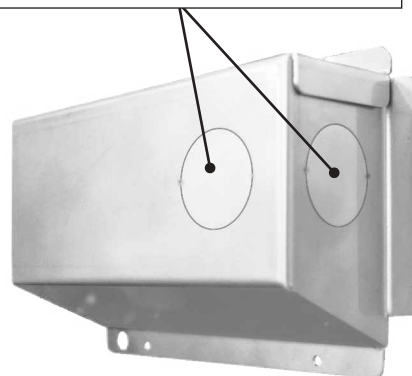

Fig. 28-2 Junction box knockouts
2. Remove the junction box located on the rear of the unit. Select and remove a knockout from the junction box that will best suit your electrical setup. Route the wiring through the selected knockout opening. See Fig. 28-2.